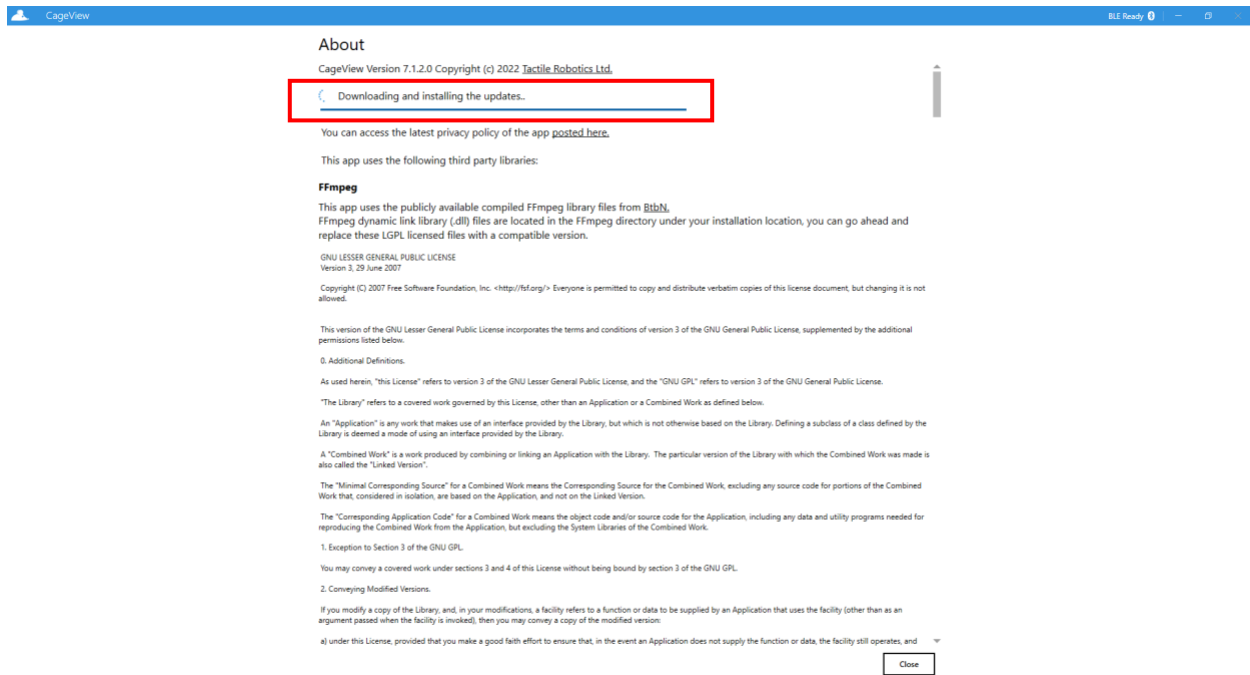

Figure 5. CageView App update downloading and installing
4.2. Click the download button beside the "Updates are available" to initiate downloading and installing process (**Figure 5**).